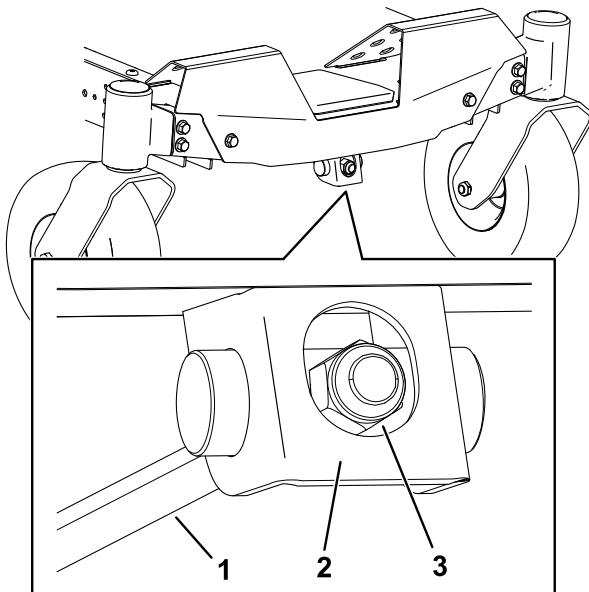

Figure 66
1. Rotate the adjustment nut in the front of the mower (Figure 66).